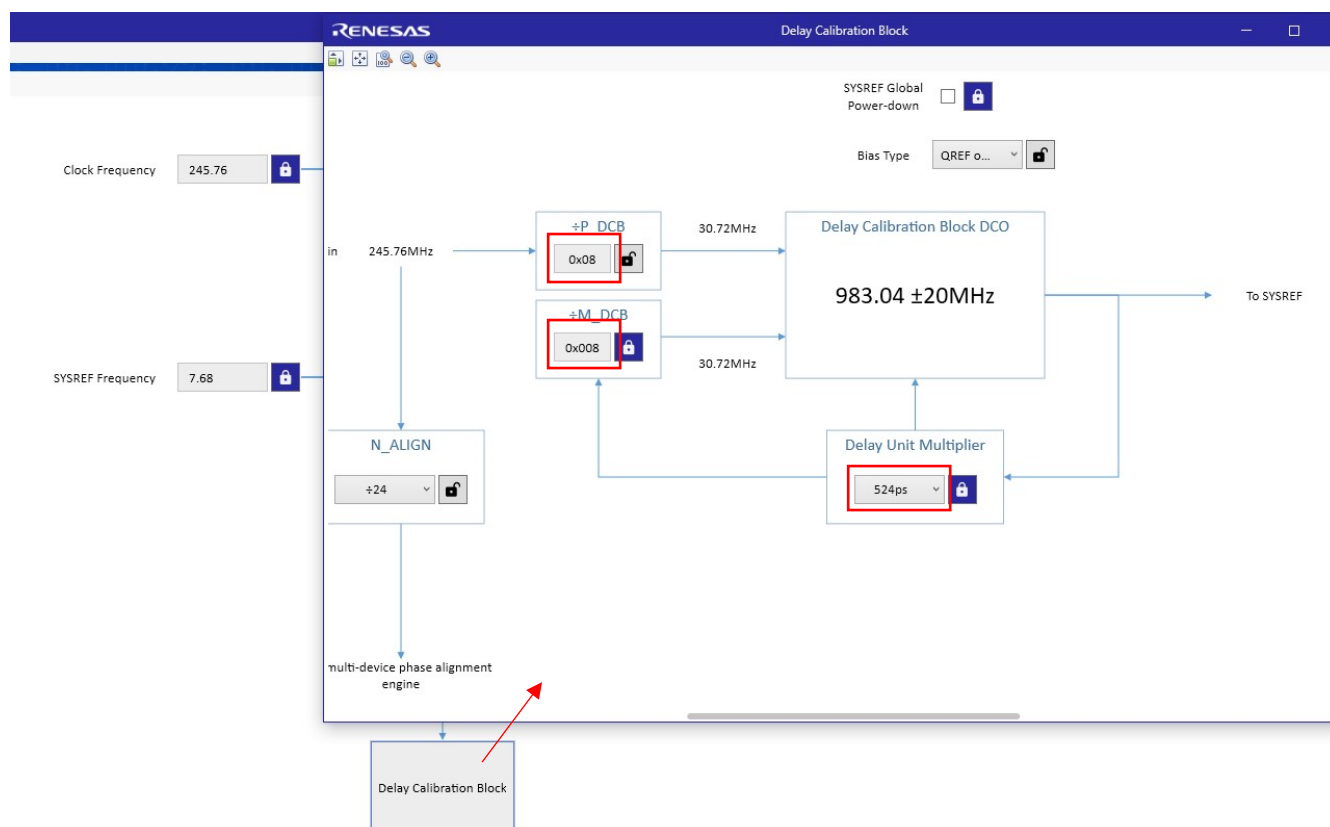

Figure 17. Delay Calibration Block
8. Enter the values in the Delay Calibration Block (see Figure 17 for an example). This block is for setting Sysref delay step unit. For more details on setting the Delay Unit Multiplier, M_DCB, P_DCB and other parameters, refer to the 8V79S680 datasheet Delay Calibration Block (DCB) section.